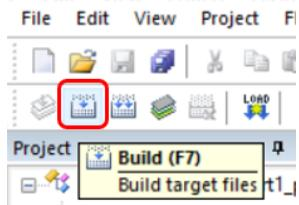

Figure 8.17: Keil IDE: Build Target
To build the target, click the “Build” button (see Figure 8.17).
10. Build the RAM target by pressing the “Build” button (see Figure 8.17).